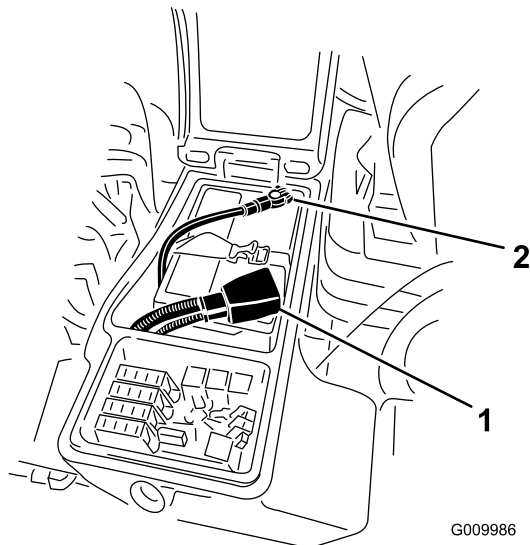

Figure 93
3. Remove the negative cable (black) from the negative (-) terminal and the positive cable (red) from the positive (+) terminal of the battery (Figure 93).
6. Install the positive cable (red) to the positive (+) terminal and the negative cable (black) to the negative (-) terminal of the battery (Figure 93).